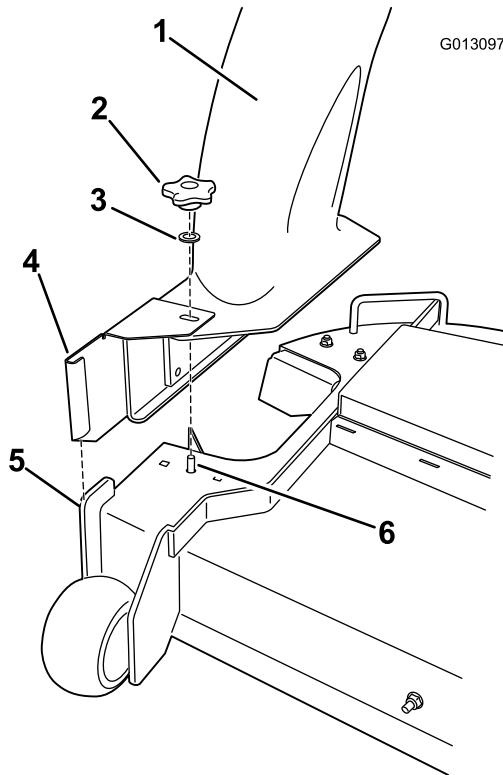

Figure 11
Note: Ensure that the opening in top of the chute aligns with the exposed post on the mower deck top and the forward vertical plate mates with the folded metal bracket of the chute (Figure 11).
6. Install a washer and hand knob over the post coming through the chute top (Figure 11).